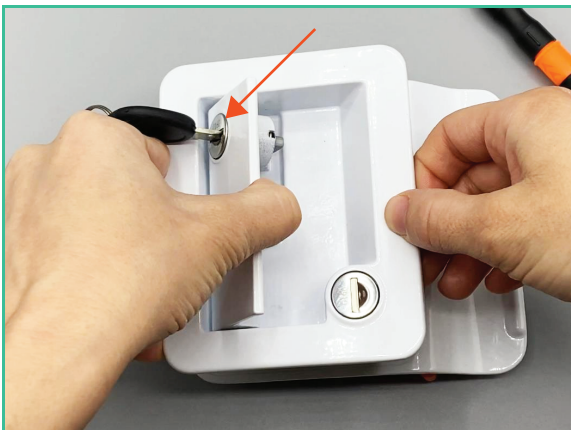

FIG 2
1. Insert mechanical key to top lock cylinder & turn to “unlocked” position **(Fig. 2)**.